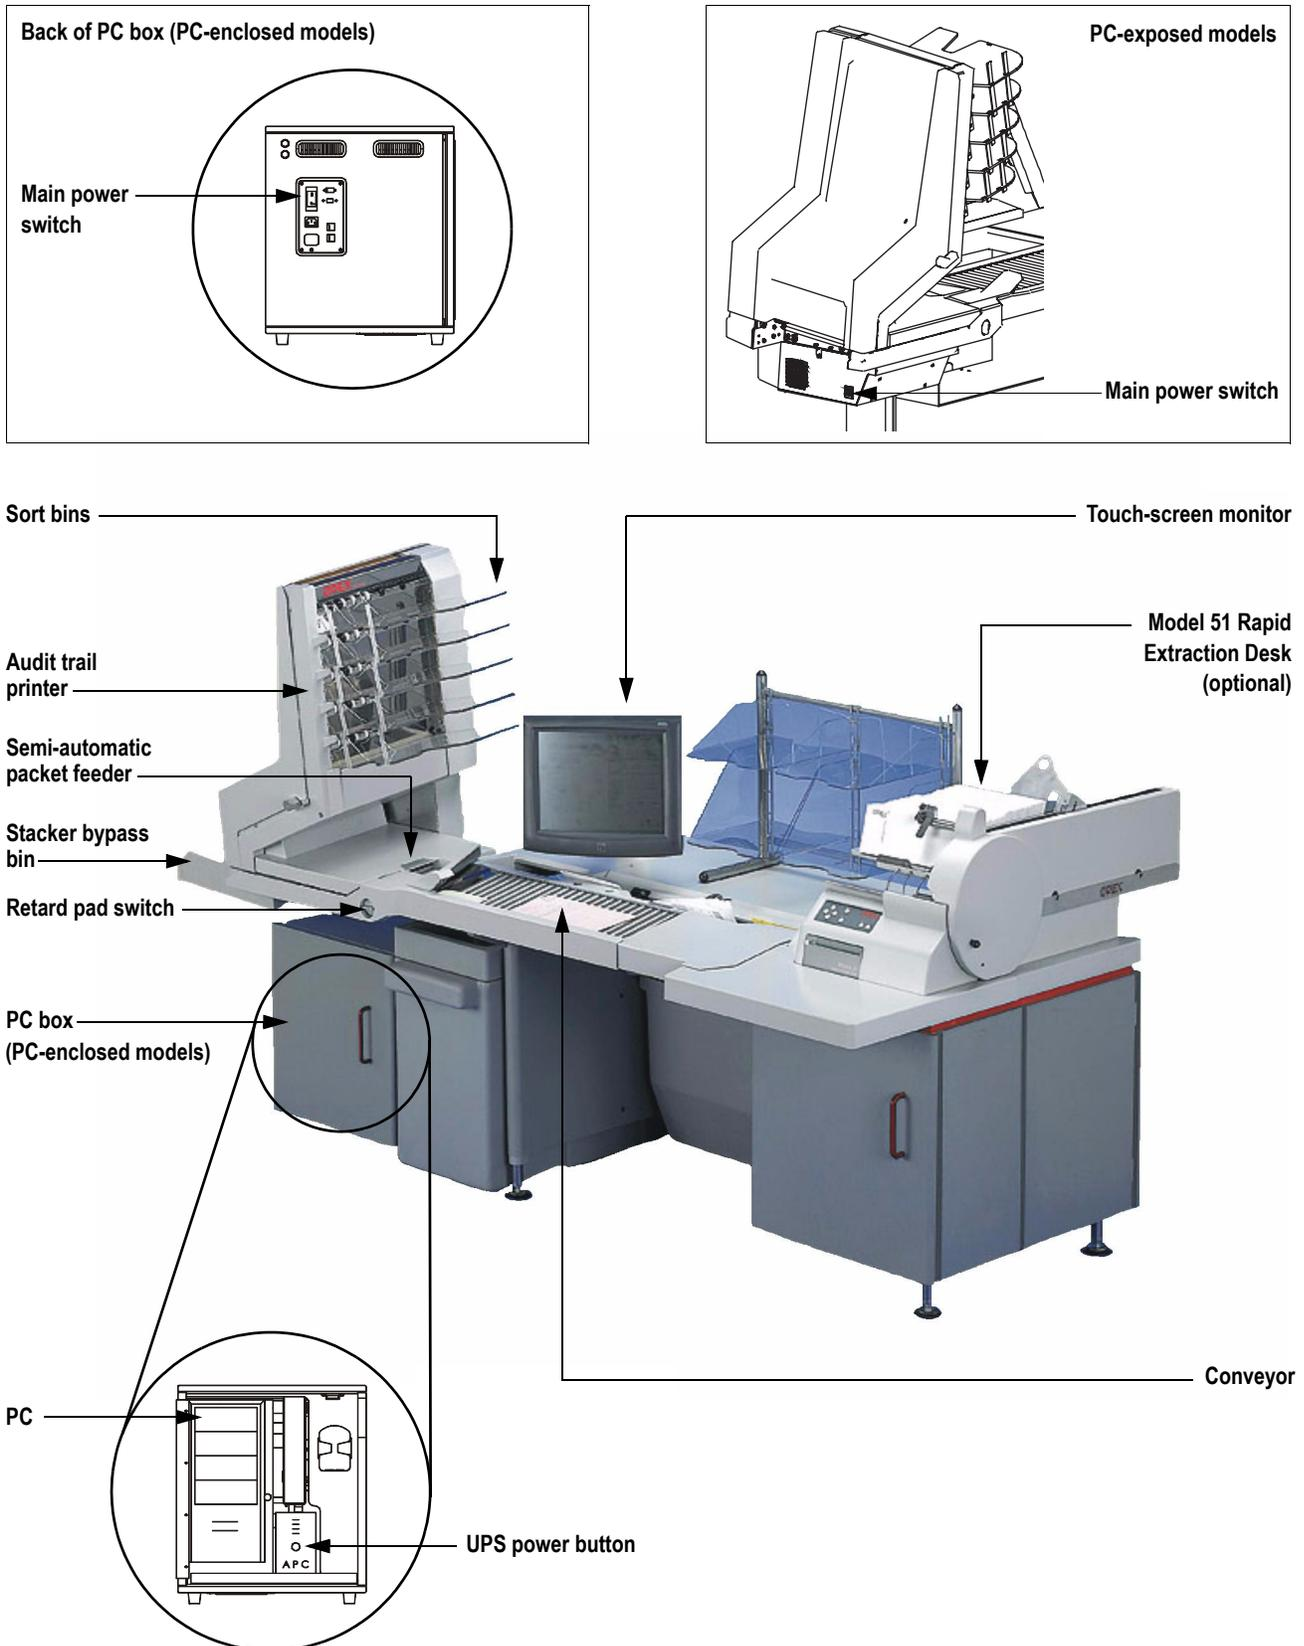

FIGURE 1: Main controls and components
The list below describes many of the controls and components of the AS3600 system. Refer to Figure 1 on page 2-3.
Main power switch The main power switch is located either on the back of the machine on the rear of the PC box (on PC-enclosed models), or on the electrical box under the stacker bins (PC-exposed models) as shown in Figure 1. This is the main “on/off” switch for the AS3600 system. For more info on turning the AS3600 system on and off, see page 2-4.
- 1 Turn on the main power switch (see Figure 1).